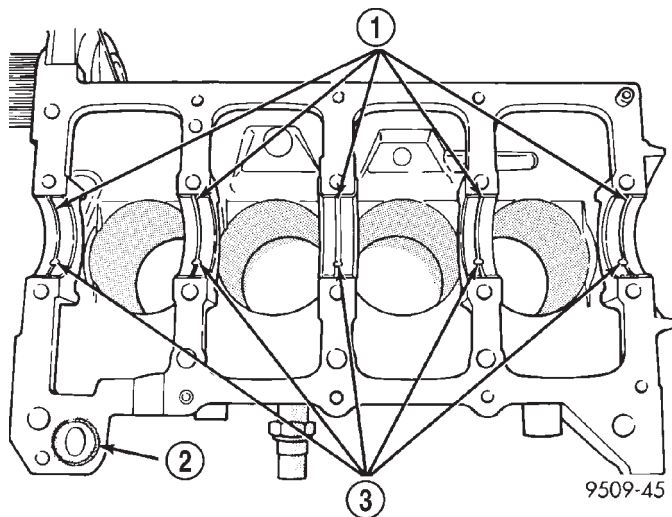

Fig. 98 Installing Main Bearing Upper Shell
(1) Install the main bearing shells with the lubrication groove in the cylinder block. Install O-ring into recess in the block (Fig. 98).